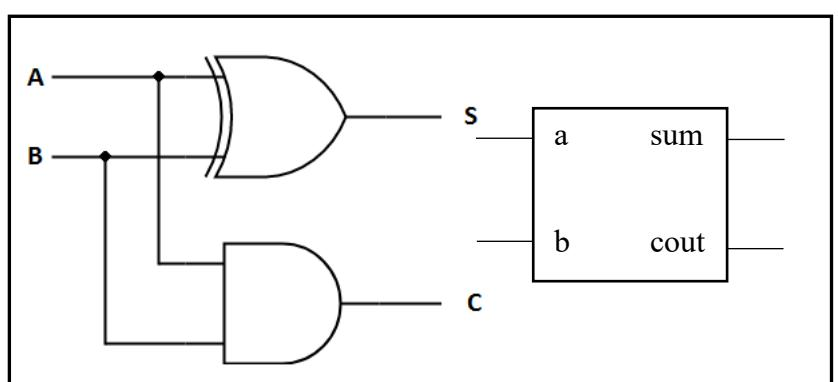

Figure 1
1.2 Engineering Data: First, I must create the design of the half adder by constructing a truth table, deriving the logic equation, and drawing out the schematic. Table 1 contains the truth table and the logic equation, while Figure 1 is the schematic and symbol of the half adder.